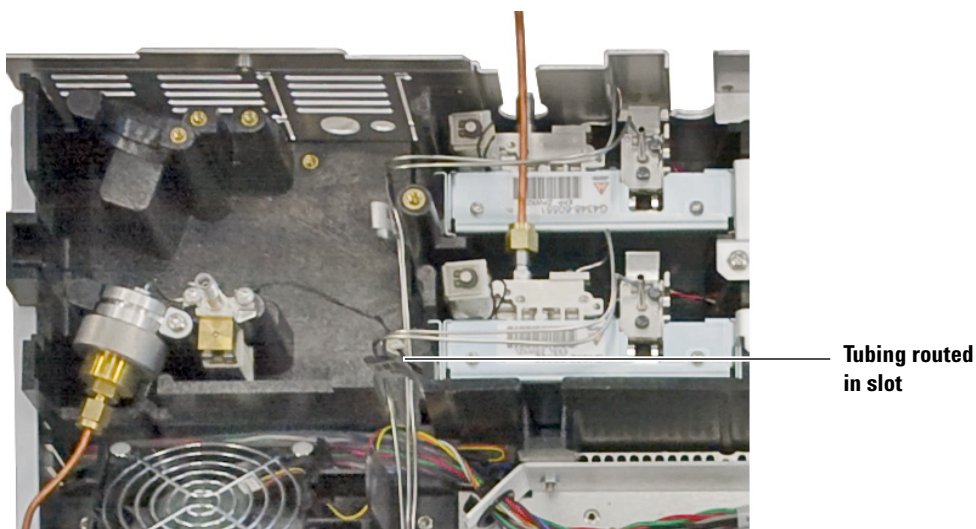

Figure 11 EPR module installed and pneumatic tubing properly routed
- 6 Route tubing from the EPR module through the large passage provided on the inlet side of the EPR bay. (See Figure 11.)